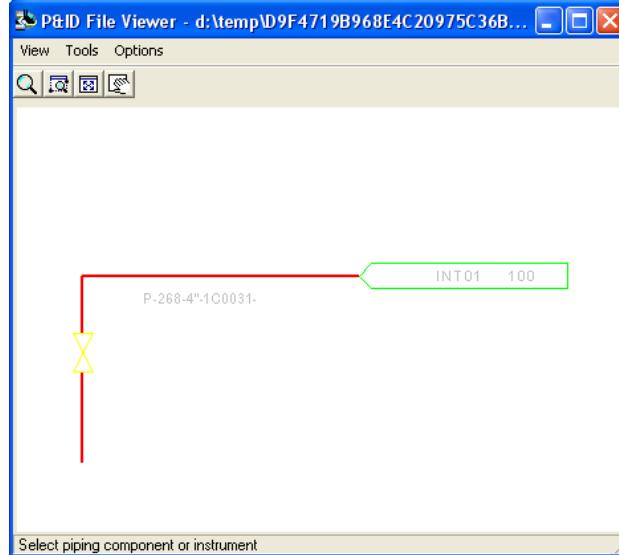

Figure 36: P&ID File Viewer Window
29. The **P&ID File Viewer** window appears. In the **P&ID File Viewer**, click the gate valve, as shown in Figure 36.